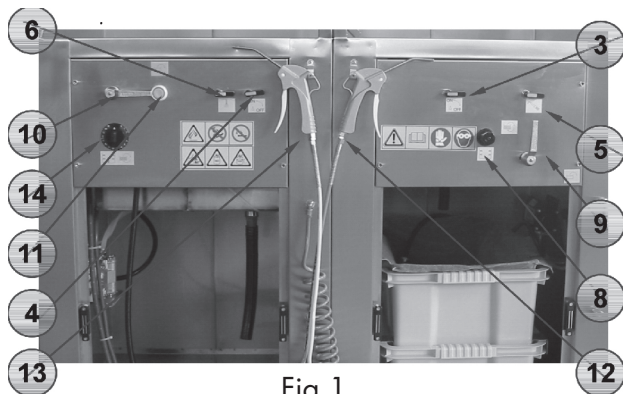

Fig. 1
1. Make sure that the two valves of machine -Fig. 1, n. 3 y n. 4-, brush - Fig. 1, n. 5 - and the atomizer - Fig. 1, n. 6 - are in the **OFF** position (horizontal position). Also make sure that the mixer regulator - Fig. 1, n. 8 - is closed (rotated completely in an anti-clockwise direction).